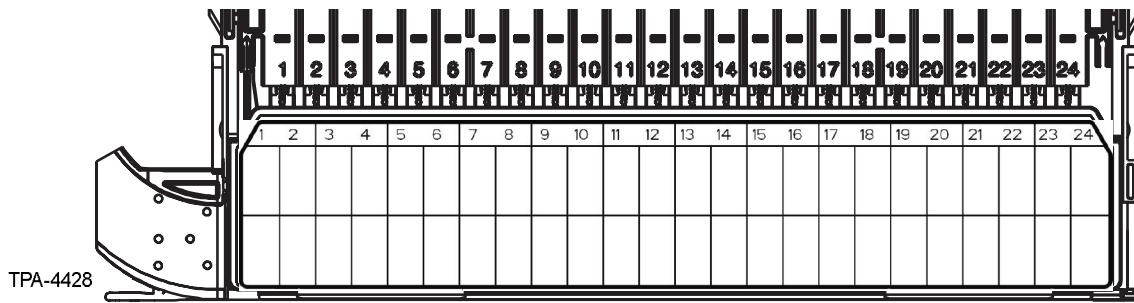

Figure 58
Step 24: Affix the designation label to the handle (Figure 58), if necessary.